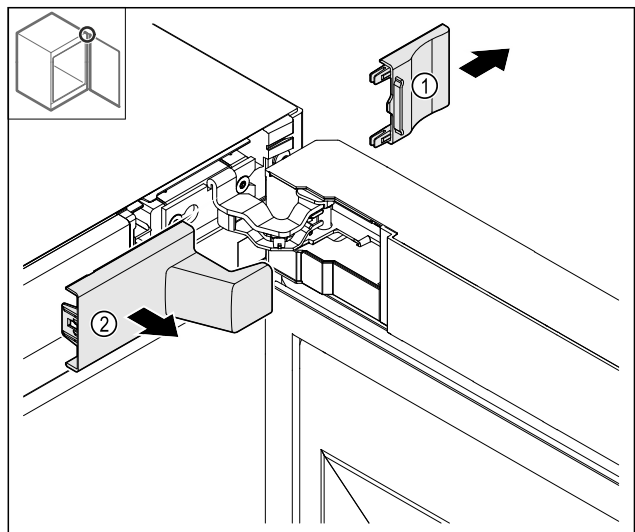

Fig. 8
▶ Remove the cover Fig. 8 (1) and then Fig. 8 (2).